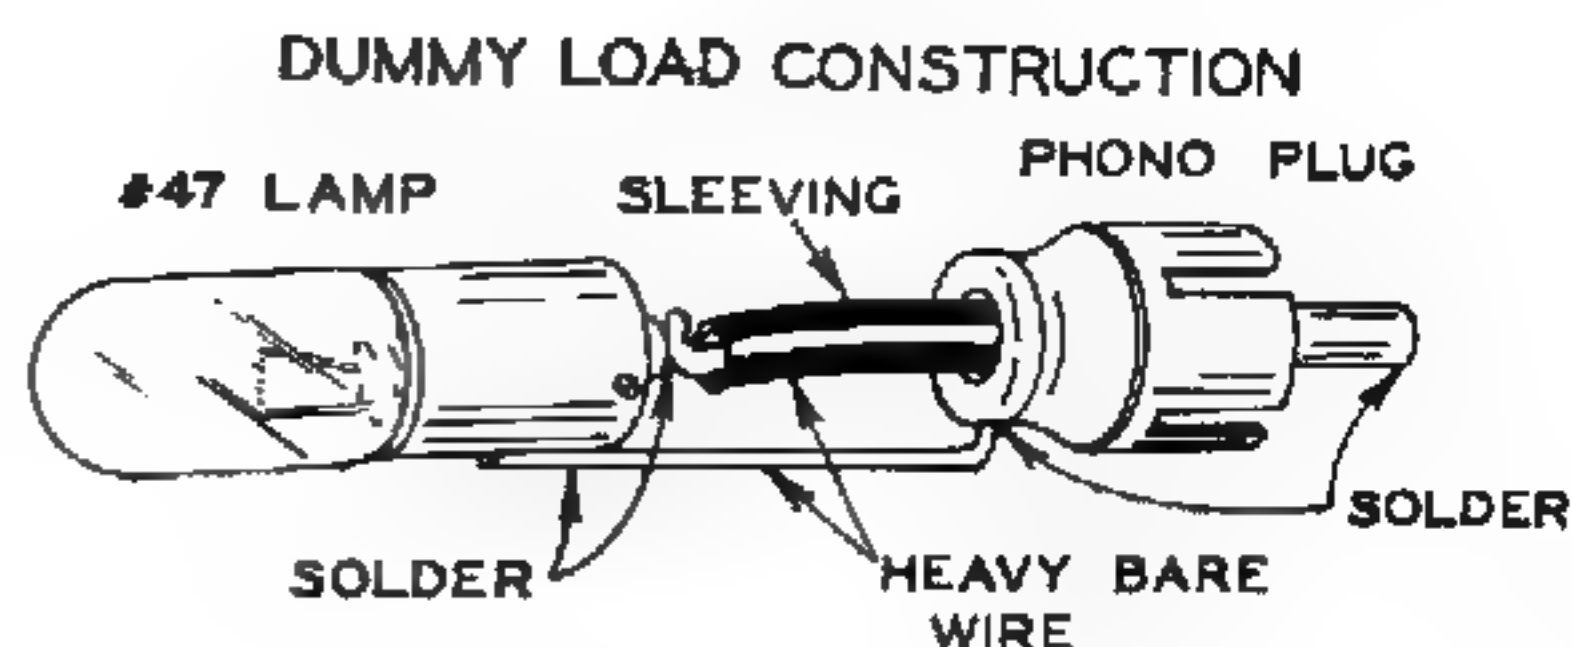

Figure 7
- ( ) Construct the dummy load by carefully following Figure 7.